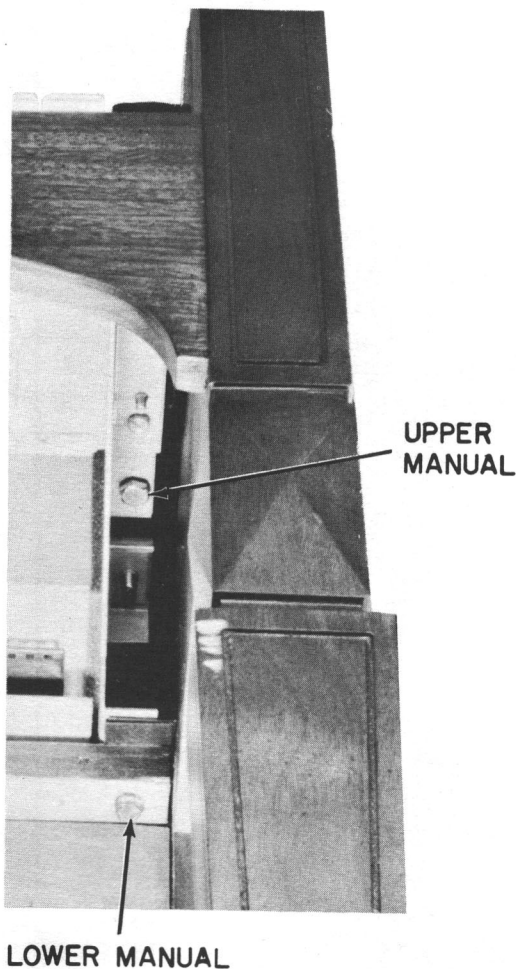

Figure 3-1. Location of Upper Manual Attaching Screw, Right Front
- a. Remove large 1/4-20 hexagon head screw from underneath manual at right end (Figure 3-1).
left end, from underside of shelf in front of baffle. See Figures 3-1 and 3-2.